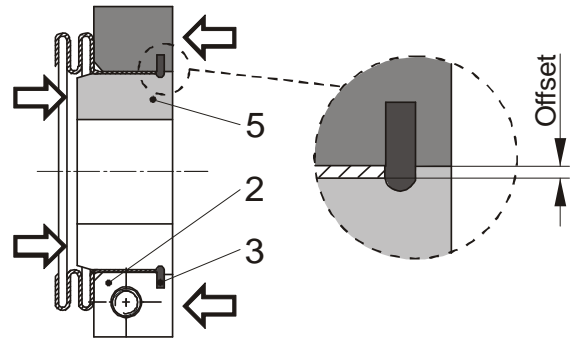

Fig. 4
Due to the offset (see Fig. 4), the reducing bushing (5) can be pressed out of the clamping ring only in one direction.